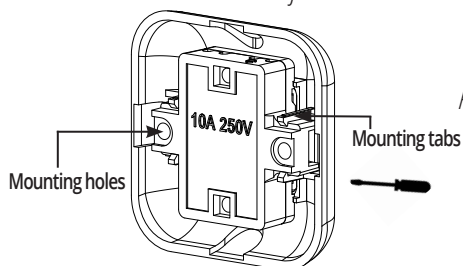

Figure 6.1: Removing the bezel
1. Insert a small flat head screwdriver as shown in the figure 6.1 and gently pry it up until it clears the mounting tab then remove the switch from its housing.
1. When looking at the back of the CM-850 and the power ratings are as shown in Figure 6.1 you will see the mounting tabs on the left and the right.